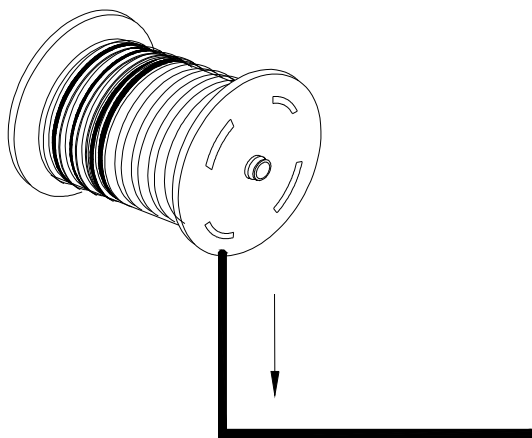

Fig. 2-2
4) Hoisting up and enwind the wire rope onto the drum 4-10 circles tightly (See Fig. 2-2).